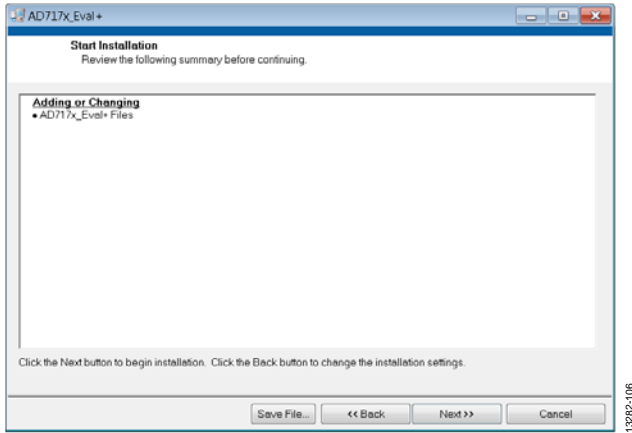

Figure 6. Reviewing a Summary of the Installation
6. A summary of the installation displays. Click **Next>>** to continue (see Figure 6).